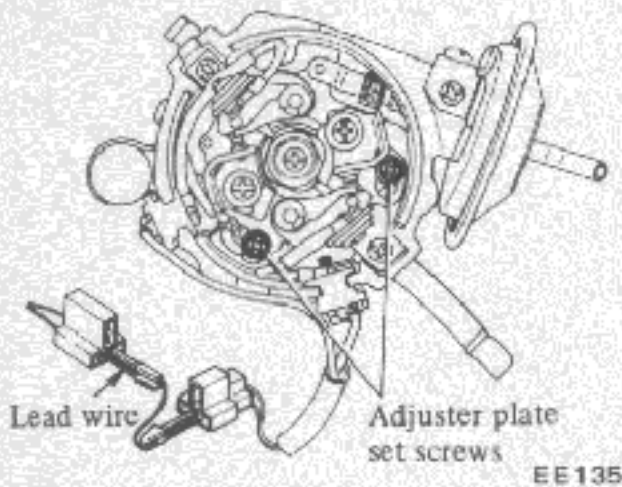

Fig. ET-24 Connect lead wire
2. Using a lead wire, connect B (black) of engine harness and B (black) of distributor harness. (Advance side). See Figure ET-24.